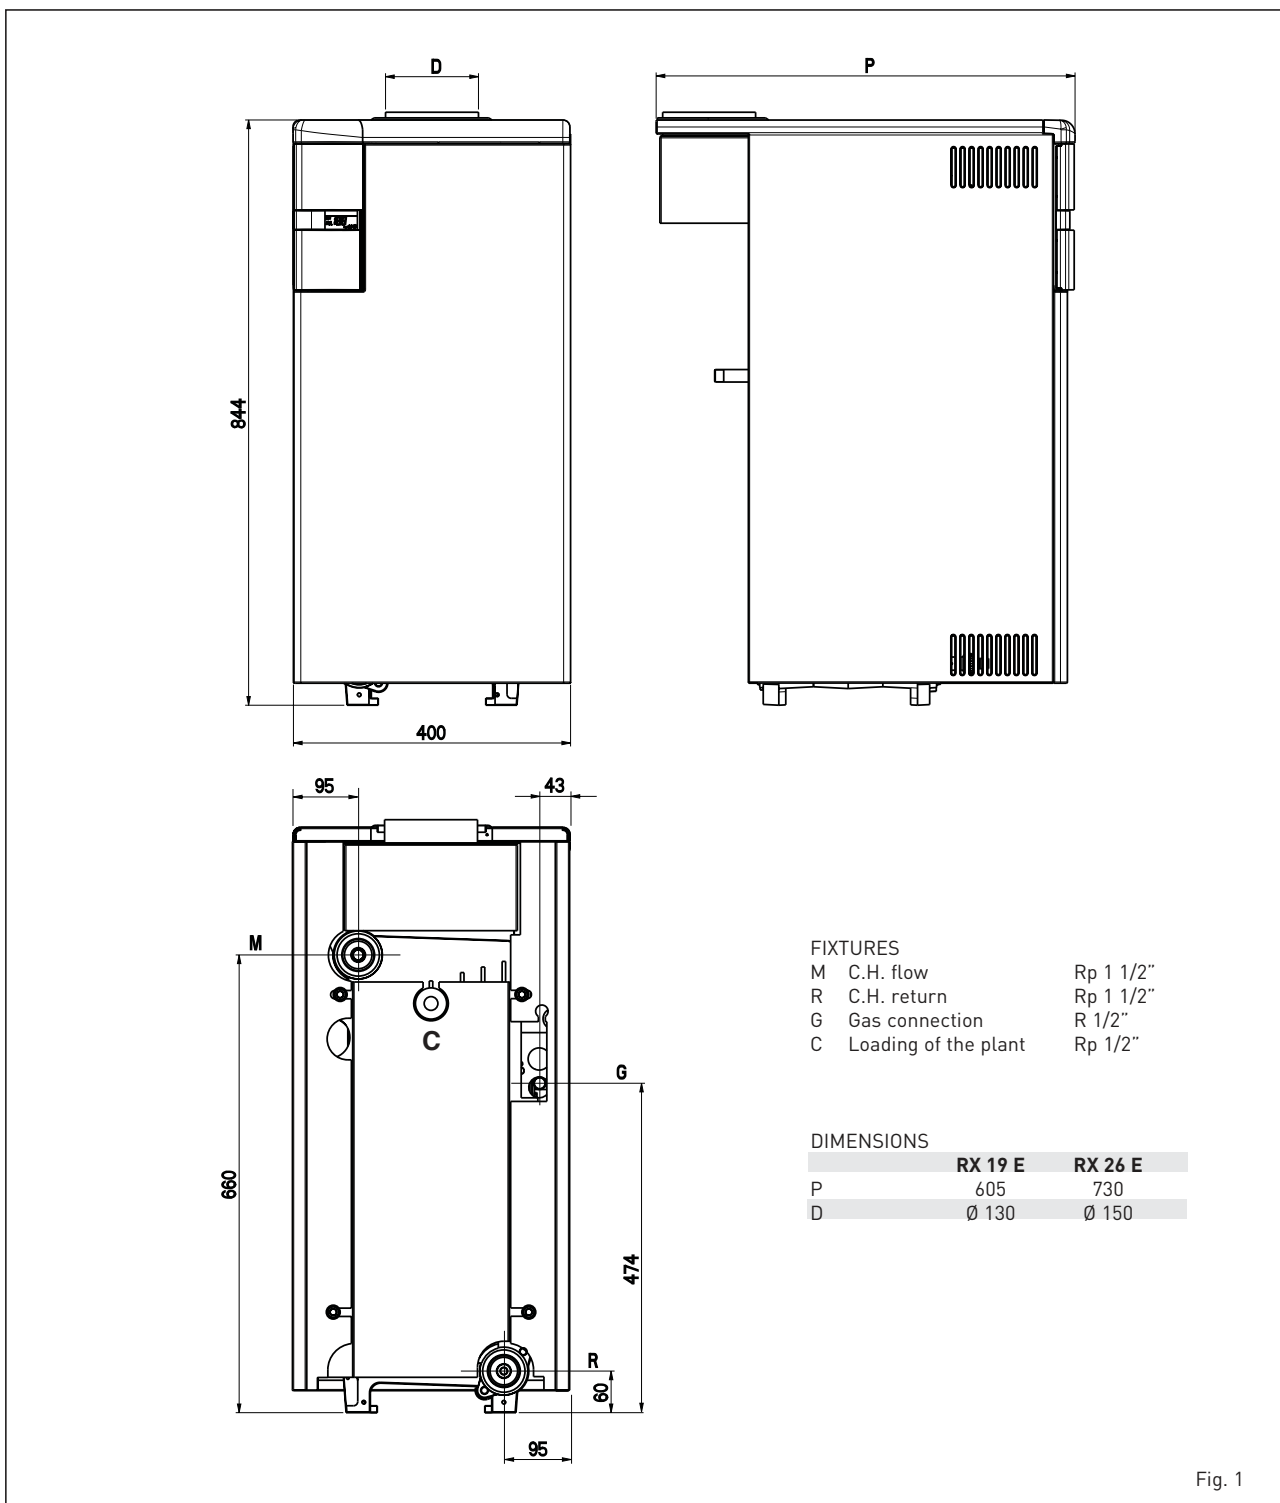

Fig. 1
1.2.1 Model RX 19-26 E (fig. 1)
1.2.2 Model RX 37-48-55 E (fig. 1/a)